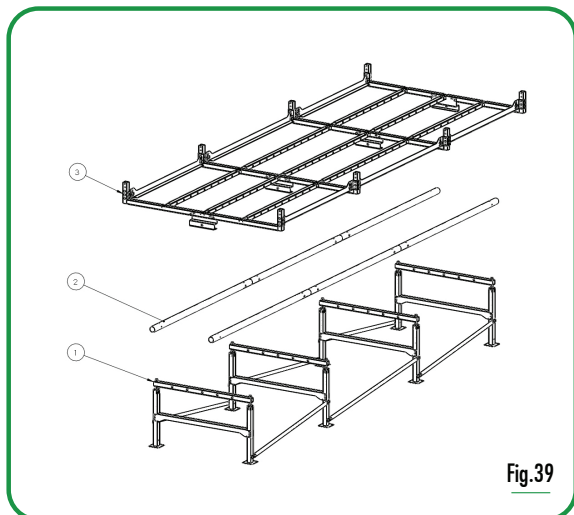

Fig.39
- 9.1 Place the frame over the support base as shown in Fig. 39